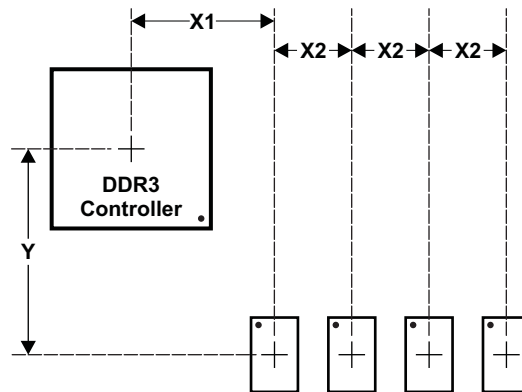

Figure 9-15. Placement Specifications
Figure 9-15 shows the required placement for the processor as well as the DDR3 devices. The dimensions for this figure are defined in Table 9-19. The placement does not restrict the side of the PCB on which the devices are mounted. The ultimate purpose of the placement is to limit the maximum trace lengths and allow for proper routing space. For a 16-bit DDR memory system, the high-word DDR3 devices are omitted from the placement.
- (1) For dimension definitions, see Figure 9-15.
- (2) Measurements from center of processor to center of DDR3 device.
- (3) Minimizing X1 and Y improves timing margins.
- (4) w is defined as the signal trace width.
- (5) Non-DDR3 signals allowed within DDR3 keepout region provided they are separated from DDR3 routing layers by a ground plane.
- (6) Note that DDR3 signals from one DDR3 controller are considered *non-DDR3* to the other controller. In other words, keep the two DDR3 interfaces separated by this specification.